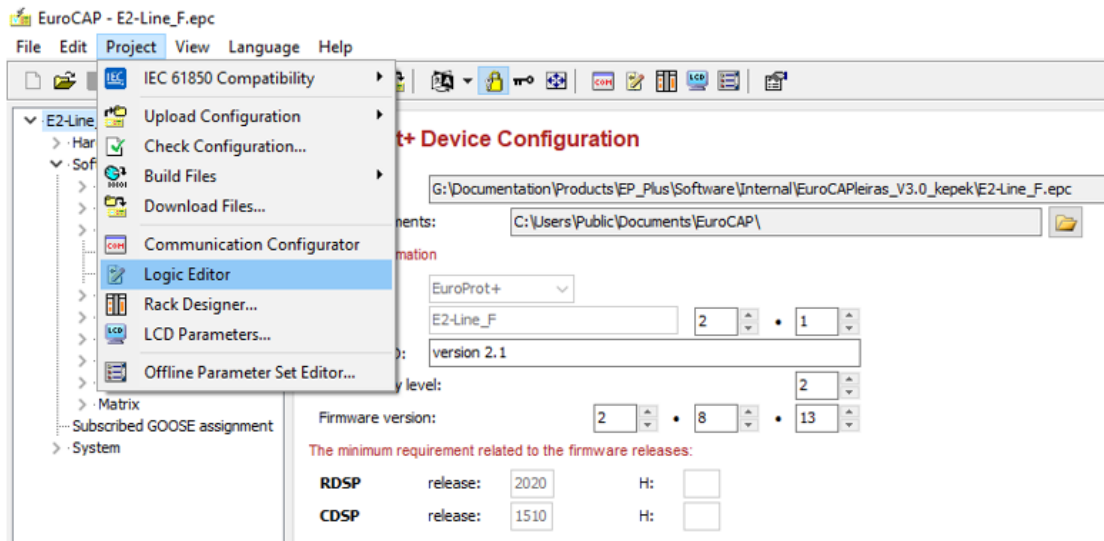

Figure 7-1 Opening the graphical logic editor
- selecting the “Project” menu item on the header, then clicking “Logic Editor”. (See *Figure 7-1*)